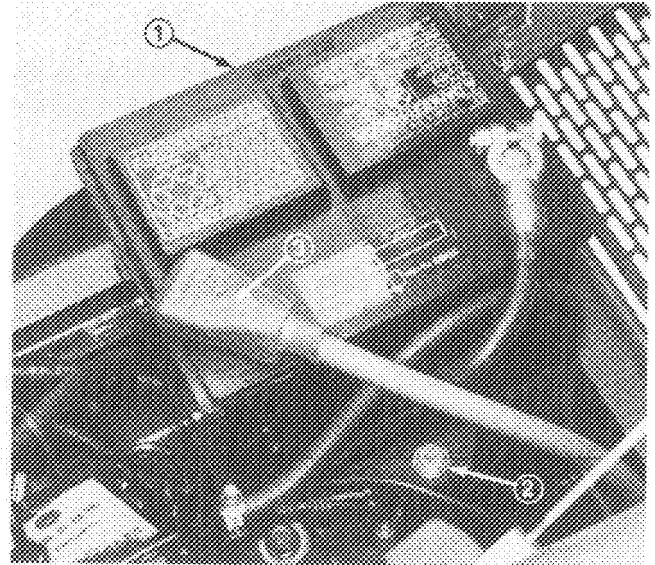

Figure 11
1. Lift engine cover. Check to see that the battery is securely fastened in place (Fig. 11).